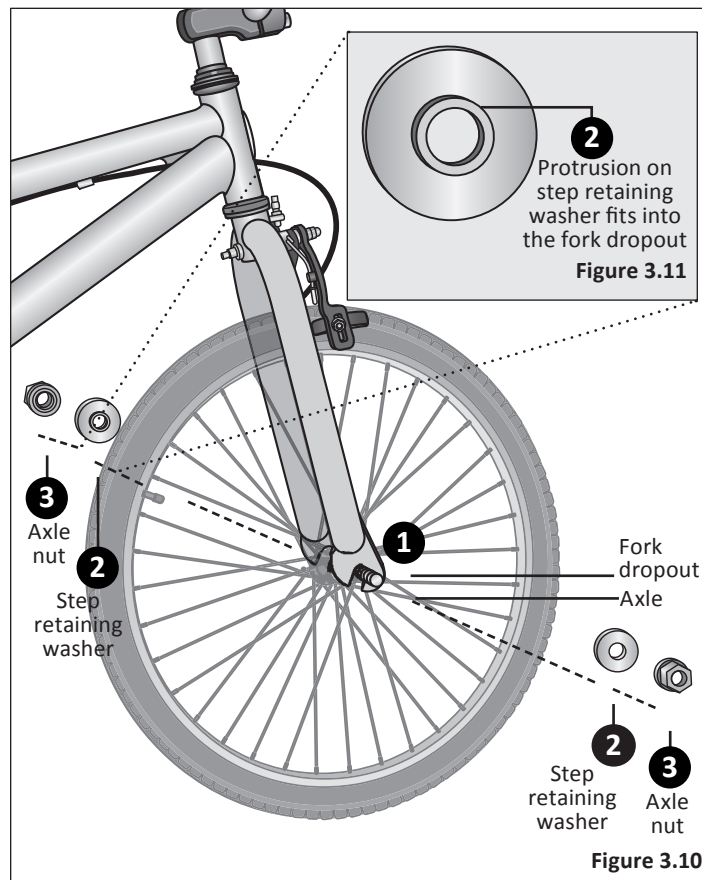

Figure 3.10
- 1 Position the front wheel between the front fork legs with the axle resting inside the fork drop outs. **Important!** Be sure the wheel is as **centered** as possible between the fork legs. **Figure 3.10**